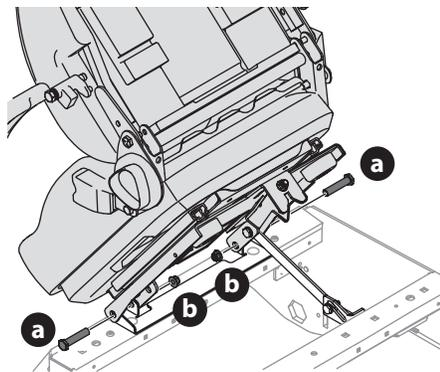

Figure 8
- Remove the two flange lock nuts (b) and shoulder bolts (a) from the manual bag (Figure 8).
- Place the seat into position and secure the seat into place with the hardware (Figure 8).